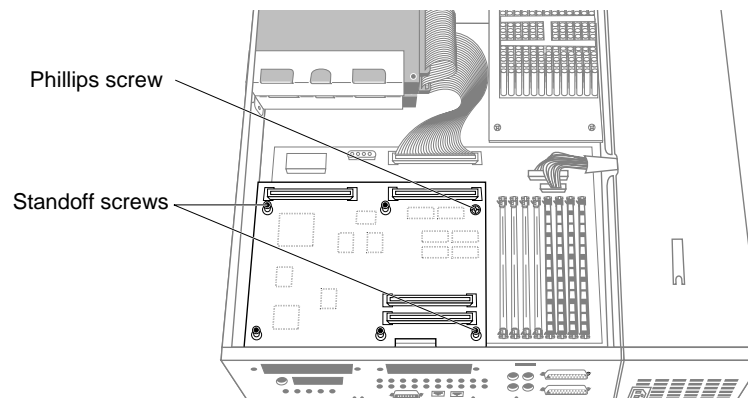

Figure 8-9 Removing the Screws From the Graphics Board
8. Use the end of the tool without an icon to unscrew the two standoff screws (tall, hexagonal posts) from the graphics board, as shown in Figure 8-9.